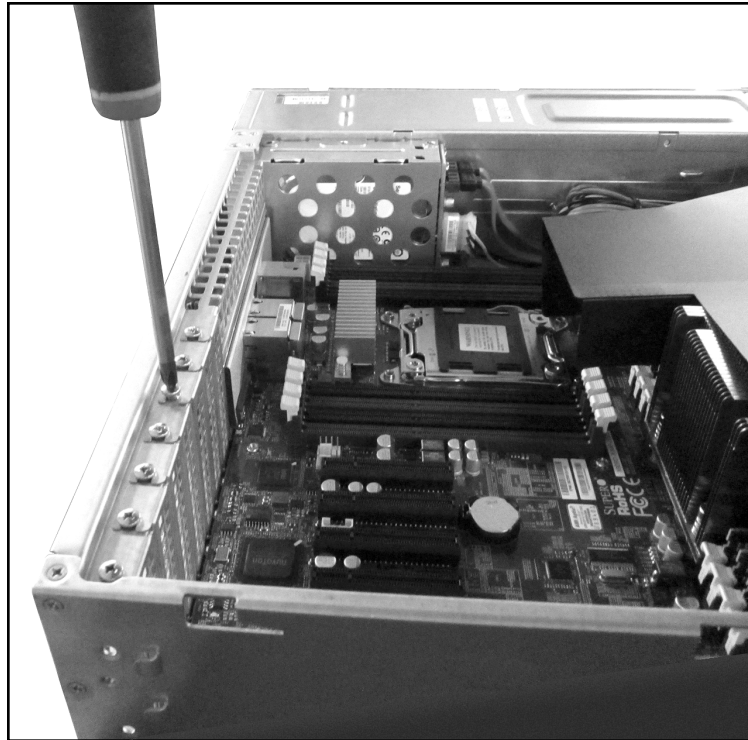

Figure 13 Remove the PCI blanking plate screw.
9. Using a #2 Phillips screwdriver, install the bracket screw to secure the HBA to the chassis (see Figure 13 on page 32).